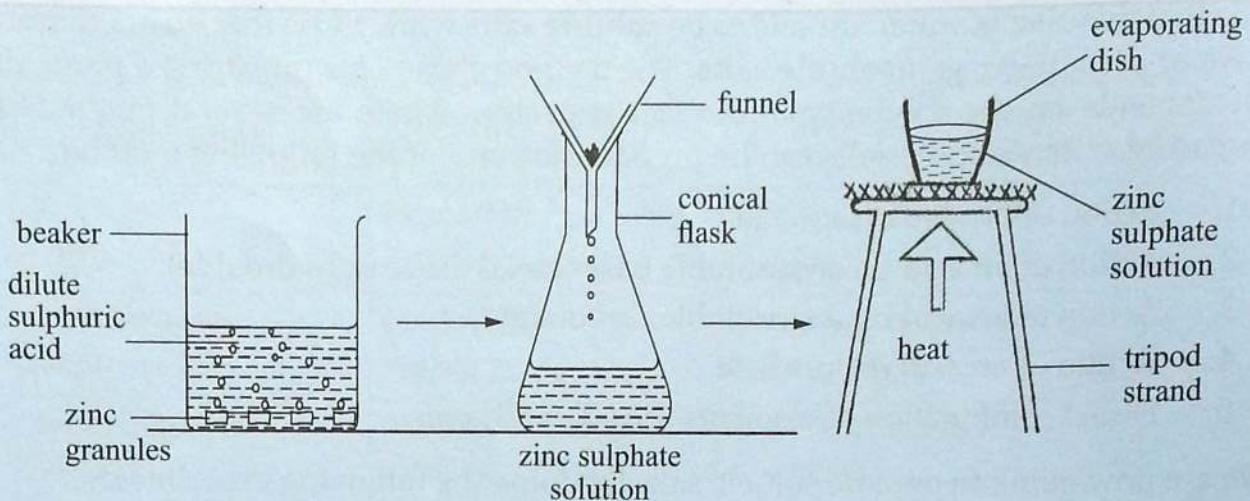

Fig. 2.3: Preparation of zinc sulphate salt
3. If the reaction is too slow, add a little copper (II) sulphate solution and warm gently, but do not boil. What do you observe? Can you give a reason why copper (II) sulphate was added?
6. Evaporate the filtrate to dryness as illustrated in Fig 2.3. What do you observe in the evaporating dish?